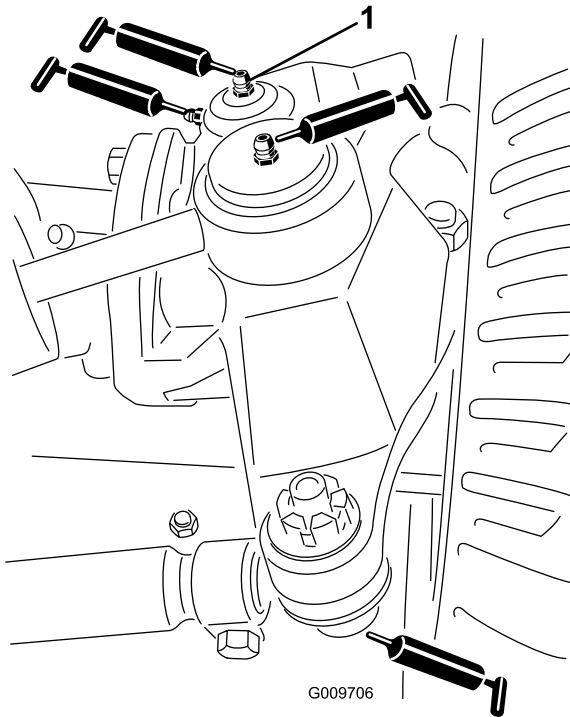

Figure 22
- Steering cylinder ball joints (2) (Figure 22)
- Tie rod ball joints (2) (Figure 22)
- King pin bushings (2) (Figure 22). **The top fitting on the king pin should only be lubricated annually (2 pumps).**